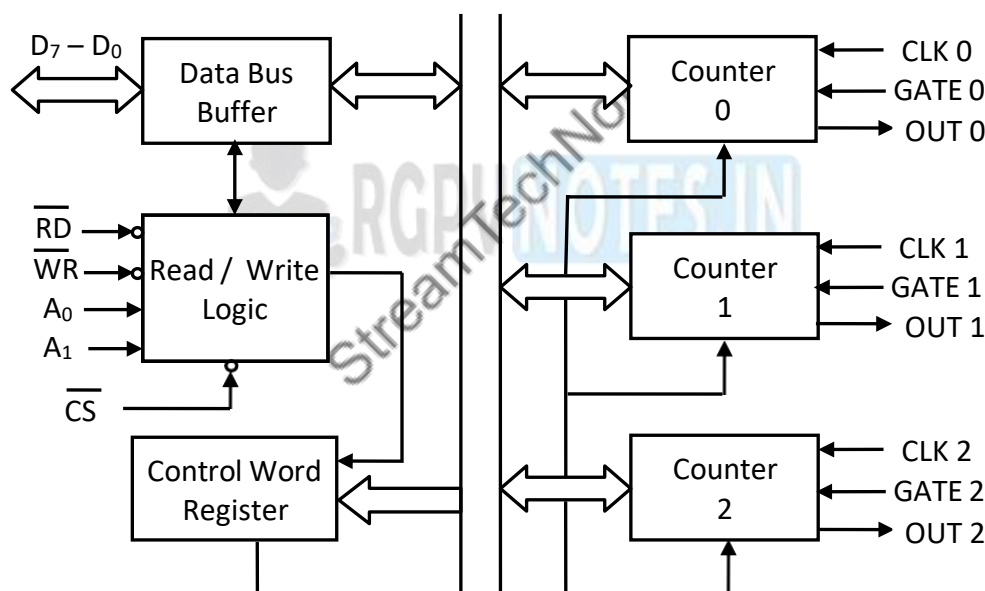

Fig.4.1 : Internal Block Diagram of 8253/8254 Programmable Interval Timer
**Programmable Interval Timer 8253/8254:** The generation of arbitrary time delay precisely using software routine programs is difficult and becomes the software overhead. The Intel's programmable counter/timer device (8253) generates accurate time delays and the microprocessor becomes free from this task and minimises the software overhead. The internal architecture of 8253 is shown in Fig 4.1. It has the following features.